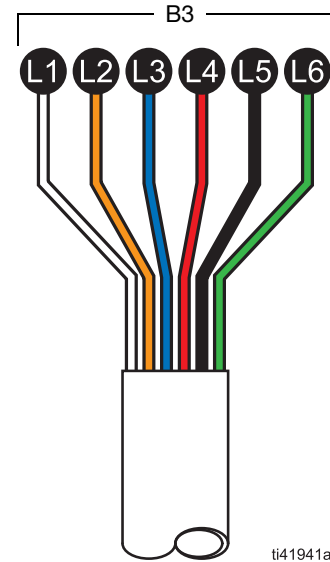

FIG. 6: I/O Cable Flying Leads
- B3 I/O cable flying leads, *not shown*; see FIG. 6